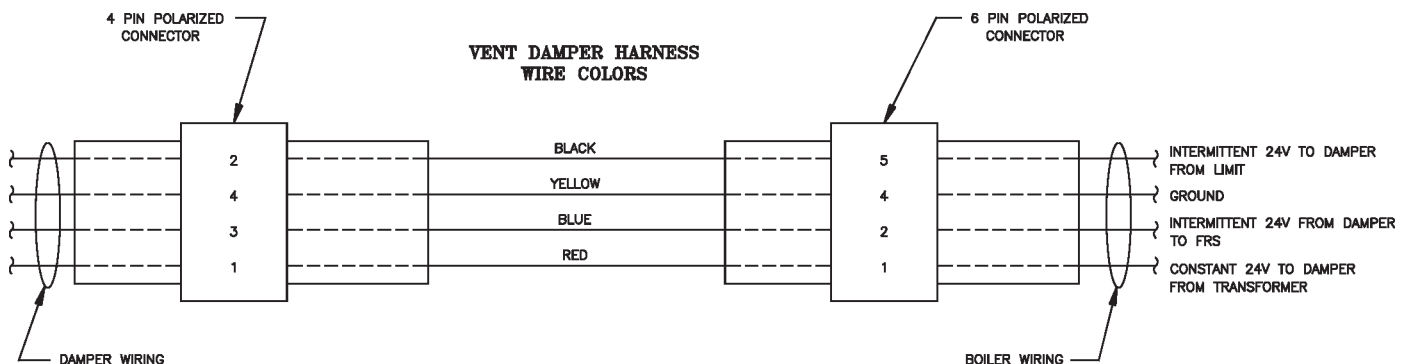

Figure 26: Vent Damper Schematic Wiring Diagram (16H-340 - 16H-505)
F. Vent Damper Sequence of Operation. See Figure 26 for schematic wiring diagram (16H-340 - 16H-505).